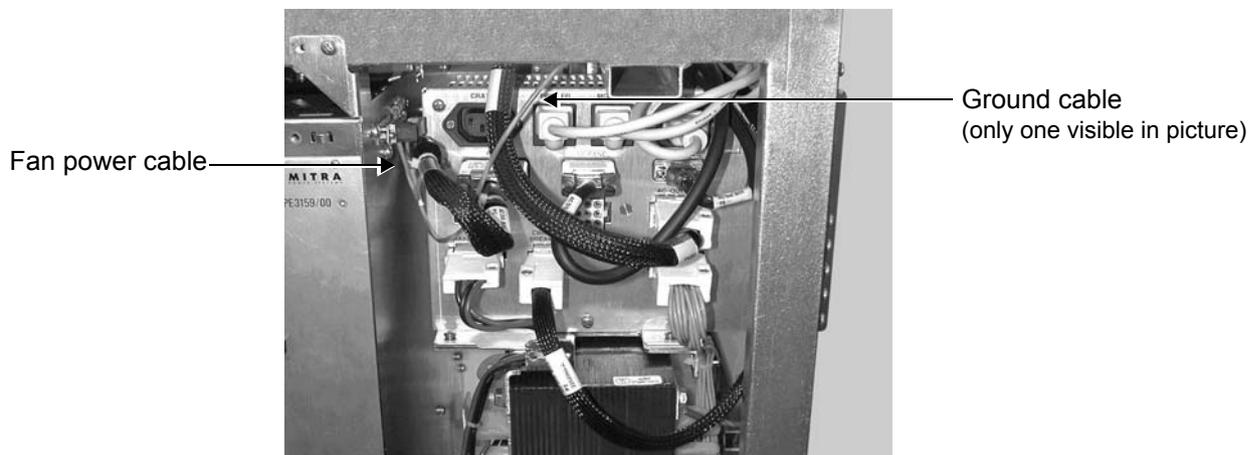

Figure 8-35 Fan Power Cable Connections
- 10) Disconnect the two Ground cables from the crate - see Figure 8-35 on page 8-41.